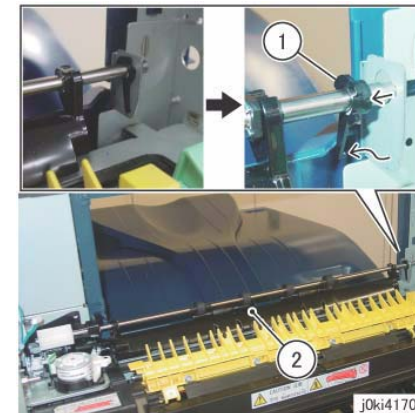

Figure 3 Remove the Exit/OCT 1 Assy
6. Remove the Exit/OCT 1 Assembly. (Figure 3)